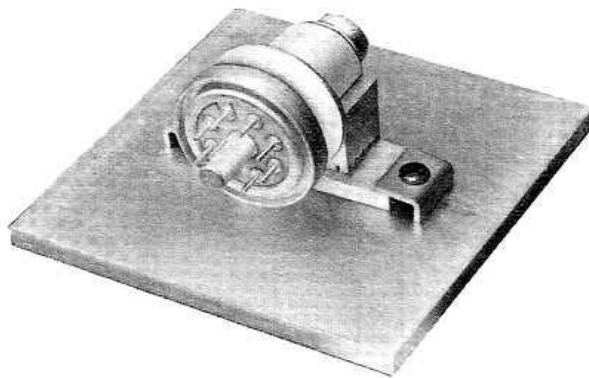

FIG. 1 TYPICAL MOUNTING CONFIGURATION
**MOUNTING & SOCKETING** - The 4CS250R may be mounted in any position. EIMAC SK-660 and SK-661 socket series is recommended. The SK-660 (made of alumina) and the SK-661 (made of BeO) will allow the tube base seal heat to be effectively transferred to the heat sink. Other sockets may be used if a means for keeping the ceramic/metal base seals below 250°C is provided. The EIMAC SK-655 and ERIE 2943 and 2929 series screen by-pass capacitor are recommended for use with the 4CS250R. Figure 1 shows the recommended method of mounting the 4CS250R to the heat sink.
**OUTPUT CAPACITANCE** - The interelectrode capacitances given in the General Characteristics are measured in a shielded fixture and does not include additional external capacitances. The typical capacitance between the anode and a heat sink plate 4" x 4" is 6.7 pF at 25°C. Total output capacitance will be approximately 11.5 pF. The measurement configuration is shown in Figure 1.